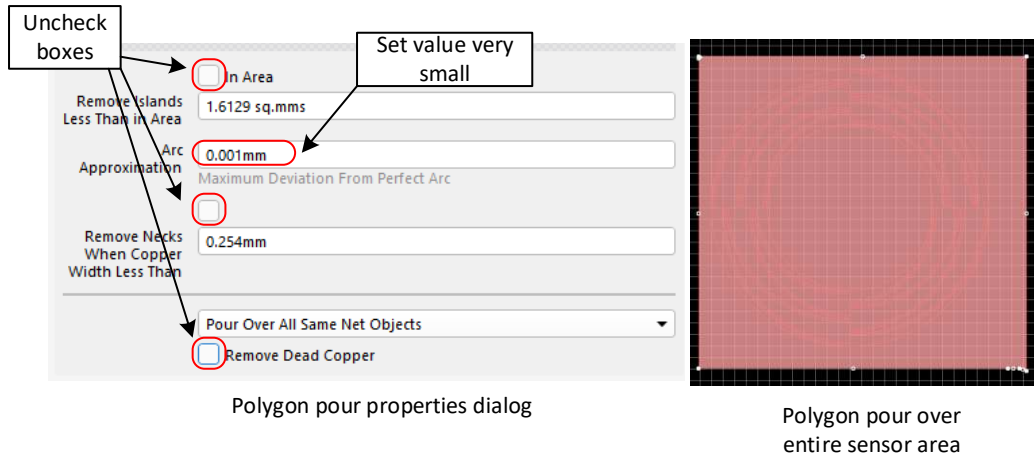

Figure 15. Polygon Pour and Modified Properties
1. Place a polygon pour over the whole sensor and modify its properties (see Figure 15).